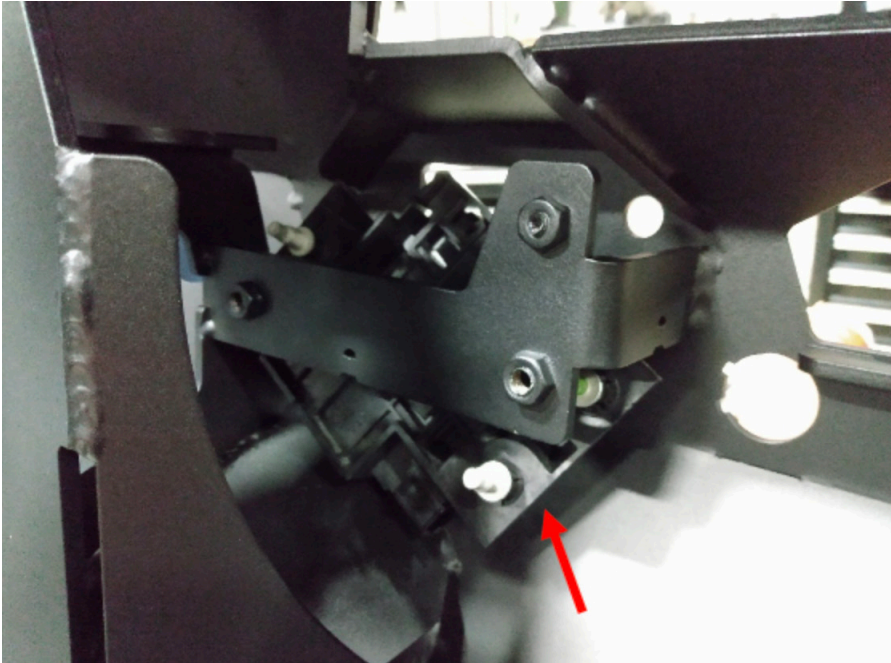

Figure 22
19. Install the ACC bracket into the bumper. Figure 22